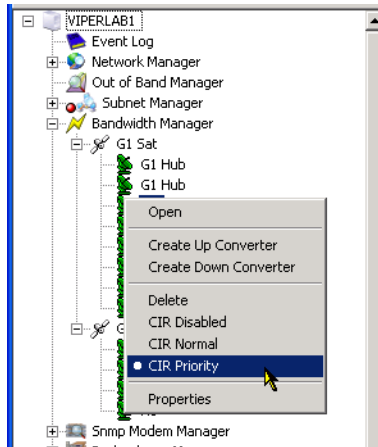

Figure 3-51 CIR Commands, Remote Antenna
1. Right-click on the Antenna appearance for the desired Remote and enable CIR for either **Normal** or **Priority** bandwidth from the drop-down menu (figure 3-51).